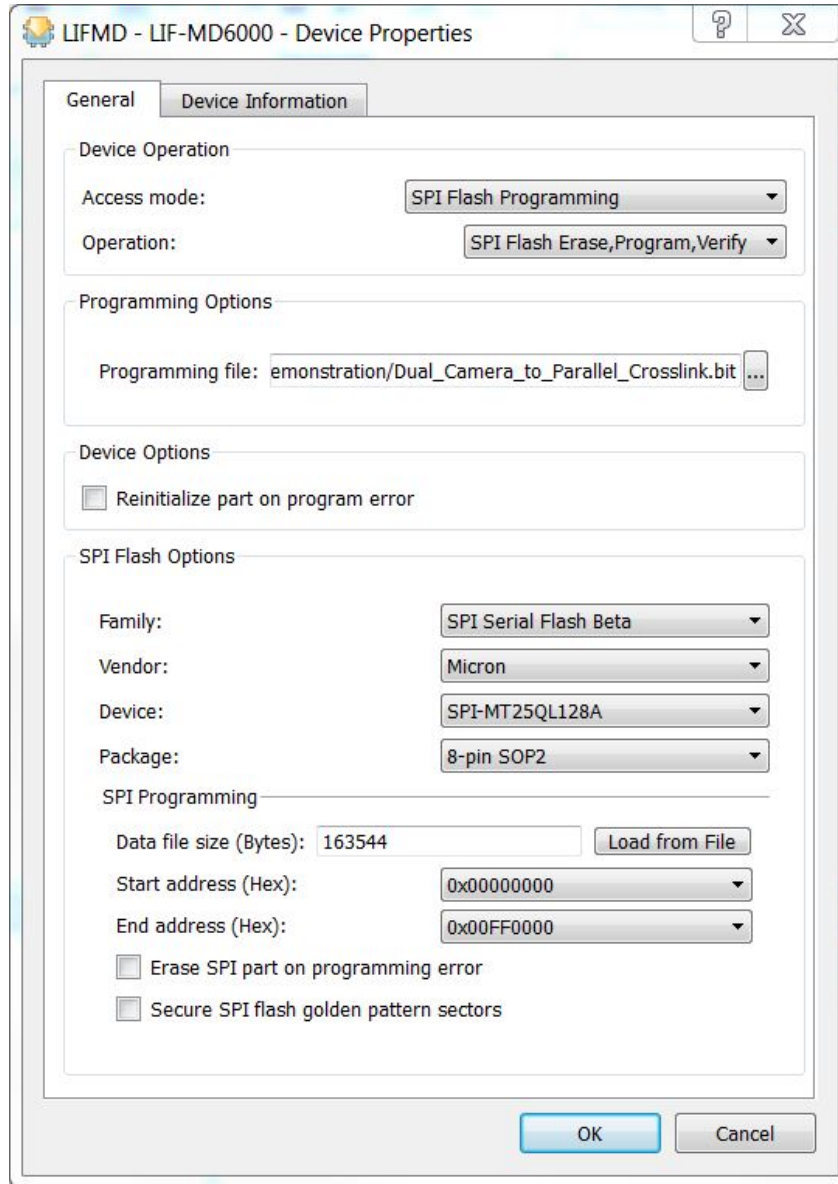

Figure 4.7. Selecting General Options
2. In the Diamond Programmer main interface, click the CrossLink row and select **Edit > Device Properties** to open the Device Properties dialog box as shown in Figure 4.7.